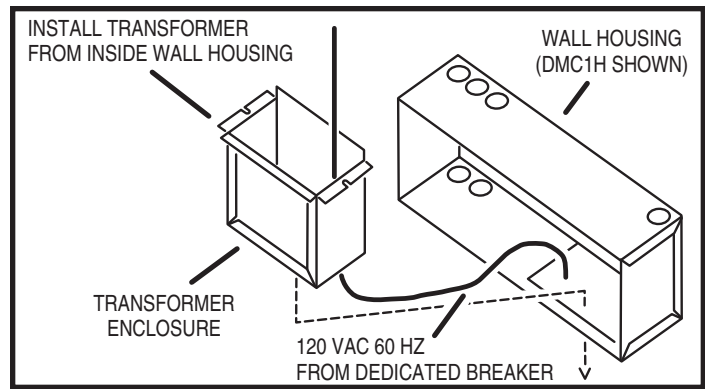

Figure 4. DMC1H Transformer Enclosure Installation
2. Slide the transformer enclosure(s) down into the rectangular transformer mounting knockout(s) on the bottom of the wall housing (see Figure 4).